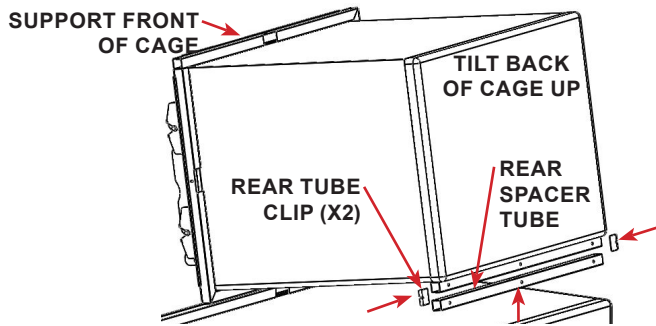

FIGURE 2.33 - Rear Spacer Tube
**STEP 5:** Utilize help to tilt the back of the cage up while supporting the front, align a spacer tube under the rear tube of the cage. Use the spacer tube rear clips to secure the tube in place, each end of tube. See FIGURE 2.33 and 2.34